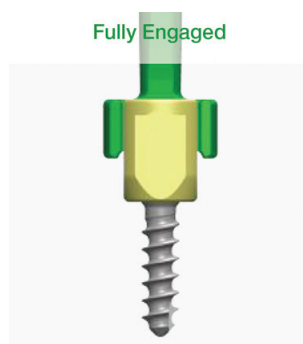

Figure 22A
**CAUTION:** It is critically important that the yoke manipulator be fully engaged into the bottom of the tulip (Figures 22A & 22B).